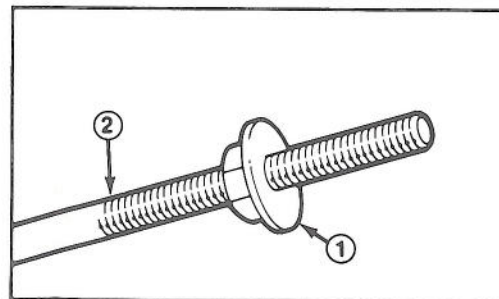

Figure 2
1. Thread a flange nut (Flange side down) onto traction rod located on left handle (Fig. 2).